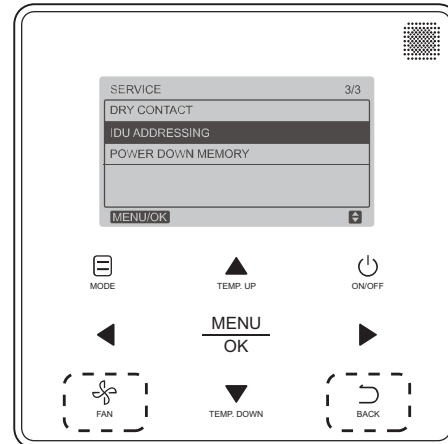

Fig. 27 —Programmable Controller IDU Addressing Menu
1. Press **FAN** and **BACK** simultaneously for five seconds to access parameter settings as shown in Fig. 27.